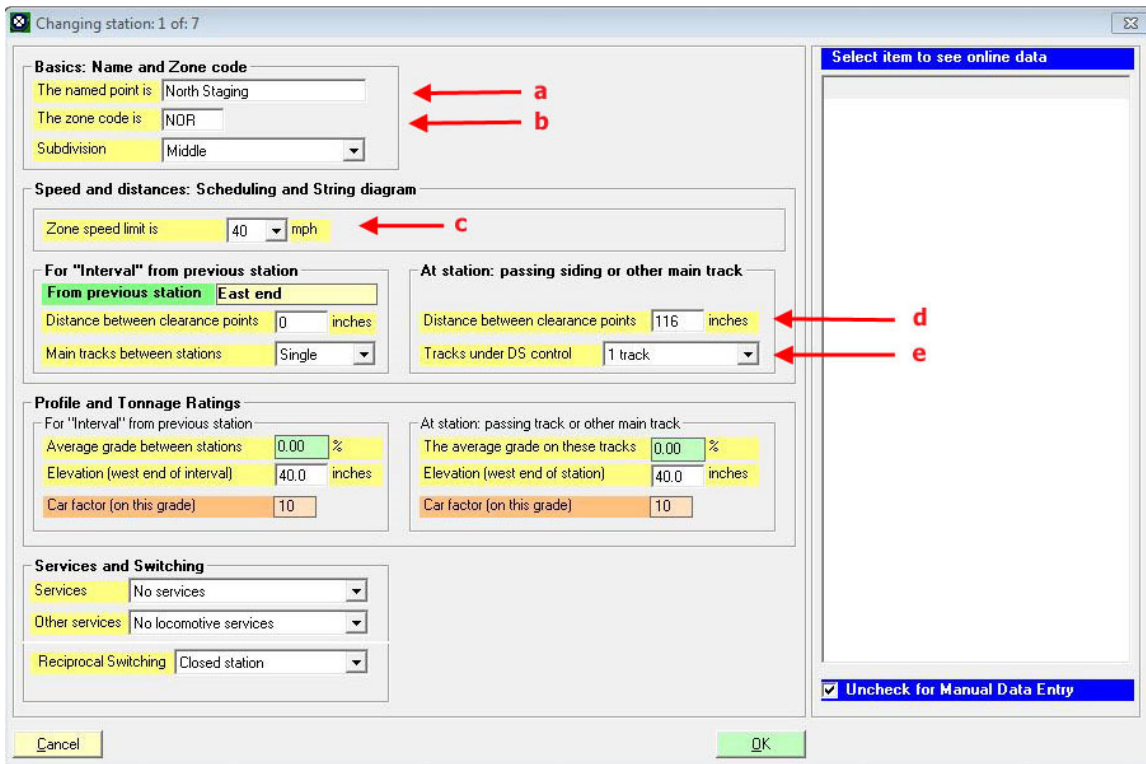

Figure 2-5
- Now that we’re back at the “Stations on core segment of Middle” window, we can start to make changes to the station data. Station 1, currently identified as North Staging, will be changed to East Staging. To do this, double-click on the station name (tt) in line 1 and the “Changing station: 1 of: 7” window will appear (see Figure 2-5) ⁽⁴⁾.